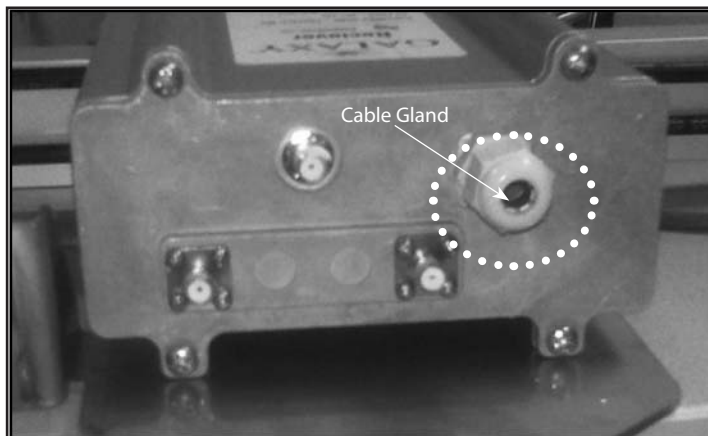

Figure 7: Cable Gland
2. Insert the power / communications cable through the cable gland on the bottom of the receiver housing (see Figure 7).